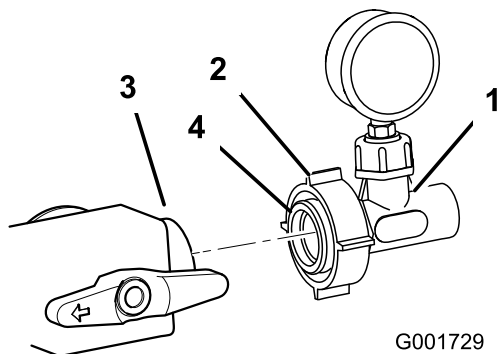

Figure 14
13. Lubricate the O-ring in the adapter with a non-petroleum based lubricant, such as vegetable oil (Figure 14).
14. Install the pressure gauge assembly to the opening in the control valve installed previously (Figure 14). Tight the plastic nut to secure the assembly to the valve.